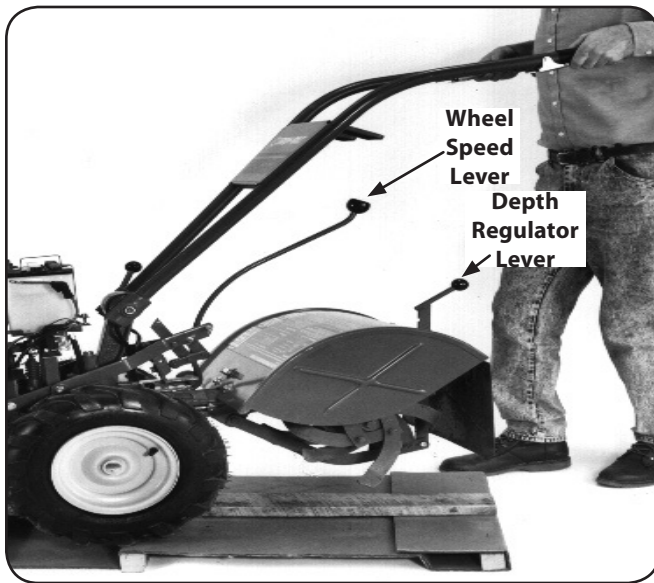

Figure 3-2
1. Set the Depth Regulator Lever to the "TRAVEL" position. Do this by lifting the tiller by the handlebars, then pulling straight back on the lever and sliding down to the highest notched setting. See Fig. 3-2.
2. Set the Wheel Speed Lever to the Freewheel position. To do this, move the lever approximately halfway between the Fast and Slow settings while you rock the tiller forward and backward until the wheels move freely. See Fig. 3-2